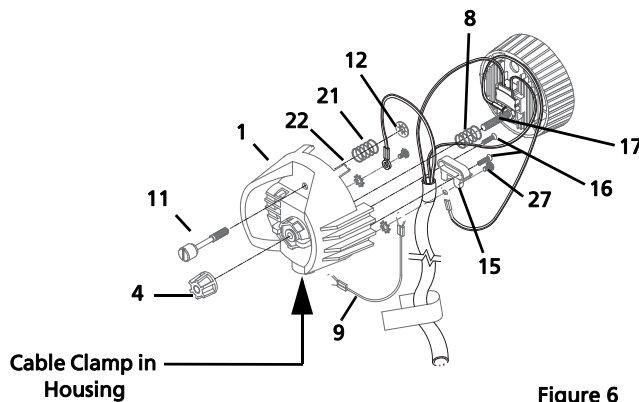

Figure 6
- 10: Insert the knurled head screw (11) through the housing socket casting (1) as shown in Figure 6.
- 11: Install the ground spring (21) onto the screw and secure it with the Southco flat retaining ring (12). Install the Southco ring with its prongs away from the casting.
- 15: Place the compression spring (8) on the protrusion on the inside of the index hub. See Figure 6.
- 16: Insert bolt (17) through spring (8) and through the index hub (6) of the housing socket (1), joining the two castings as shown in Figure 6. Make sure that the wires are not pinched between the two pieces.
- 18: Press the two castings together firmly so the bottom of the light baffle (2) sits on top of the cable clamp (15), then install the Z knob (4). Hand-tighten the knob all the way to the right. See Figure 6.